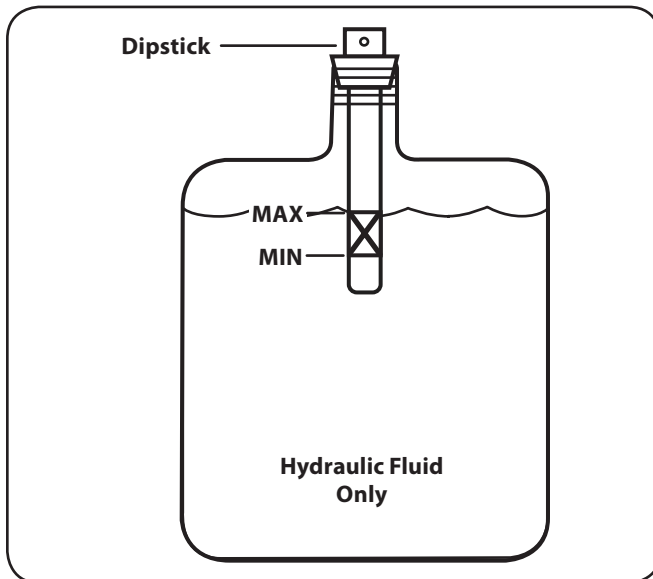

Figure 6-4
13. If necessary Refill the reservoir within range marked on the dipstick. See Figure 6-4.